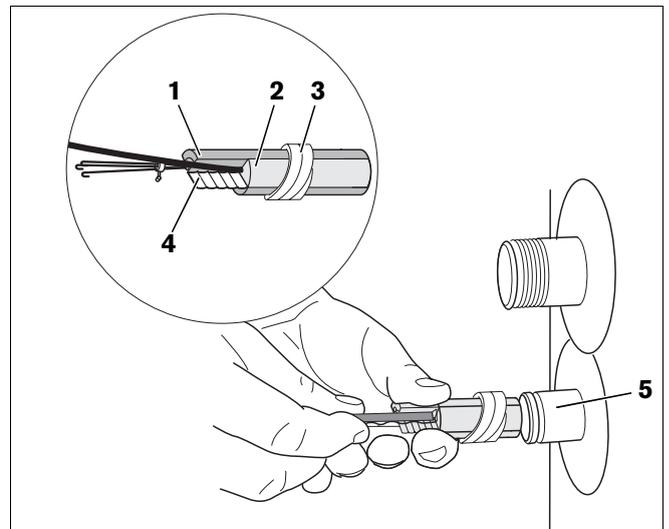

Fig. 8 Installing the DHW temperature sensor
- Insert the sensor pack (Fig. 8, **Item 1** to **4**) until it bottoms out inside the sensor well (Fig. 8, **Item 5**). During insertion, the plastic spiral (Fig. 8, **Item 3**) holding the sensor pack together slides back automatically.
The compensating spring (Fig. 8, **Item 4**) ensures contact between the sensor well and the sensor surfaces, thereby ensuring a reliable temperature measurement.